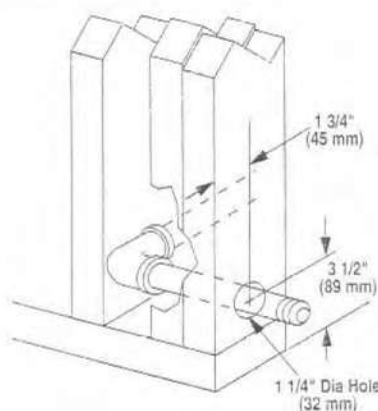

Figure 3
Step 2. Route a 1/2" (13 mm) black iron gas line along the left side framing. Drill clearance hole as shown in Figure 3.